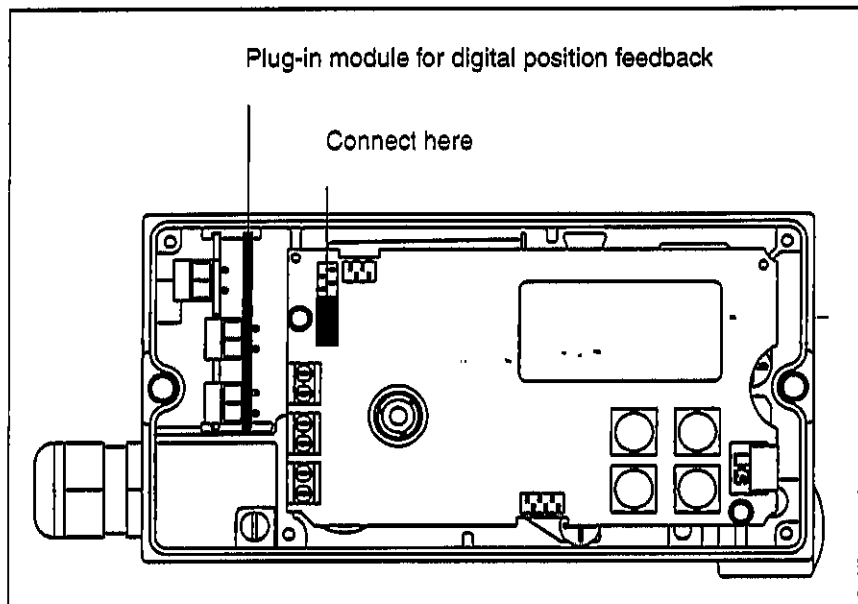

Fig. 28 Installing plug-in module for digital pos. feedb.
- Insert the plug-in module for digital position feedback into the right-hand slot into the case (see Fig. 28); ensure that the board engages into the case guides and that the flat cable with the connector is on the right-hand side.
- Connect the plug-in module to the motherboard (see Fig. 28).